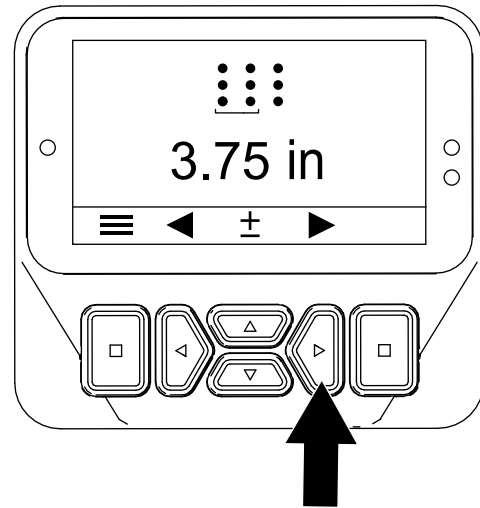

Figure 48
- Press the right button to display the Setting the Hole Spacing screen (Figure 48).